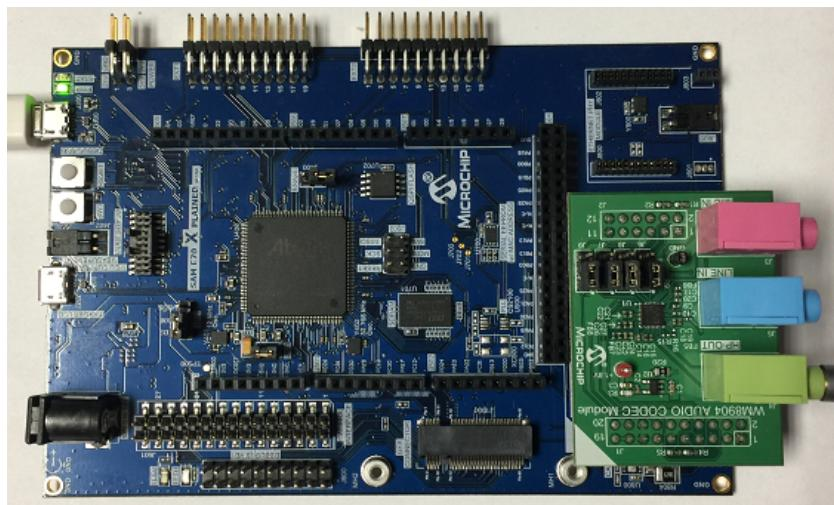

Figure 1: WM8904 Audio Codec Daughter Board on SAM E70 Xplained Ultra board
1. Connect headphones to the HP OUT jack of the WM8904 Audio Codec Daughter Board (see Figure 1), or the HEADPHONE jack of the SAM V71 Xplained Ultra board.